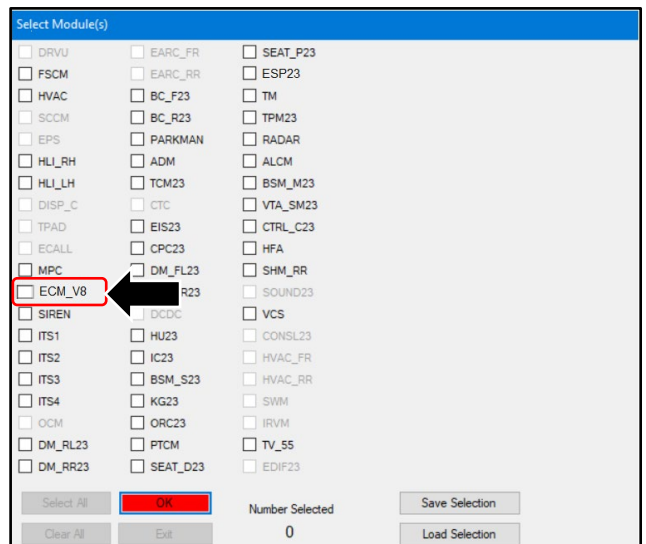

Figure 10
19. Select "ECM\_V8" and click "OK" (refer to Figure 10).